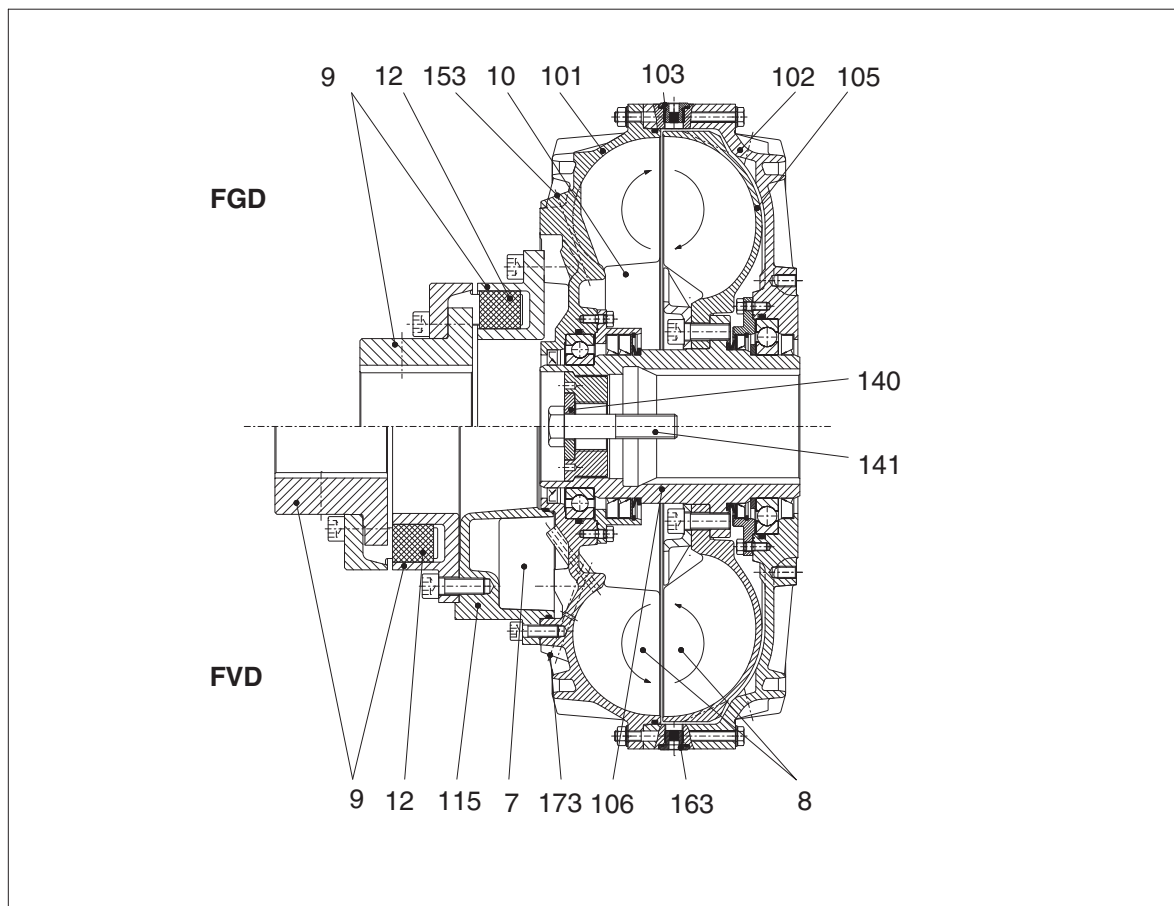

Fig. 3: General description "FG.", "FV." and "FVV." series
Before cleaning the coupling parts and applying the long-term preservative agent, the flexible elements (12) in figure 3 must be removed.